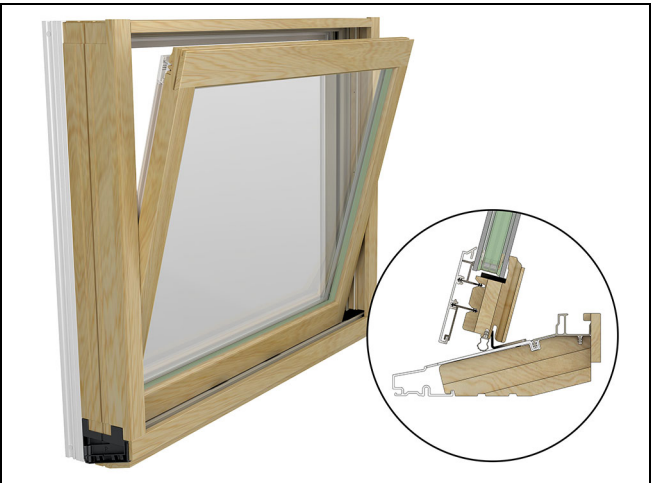

Figure 54
1. Place the bottom of the sash into the frame and tip into place until sash is seated against the exterior stop. The sill bracket will fit into the groove in the bottom of the sill. See Figure 54.